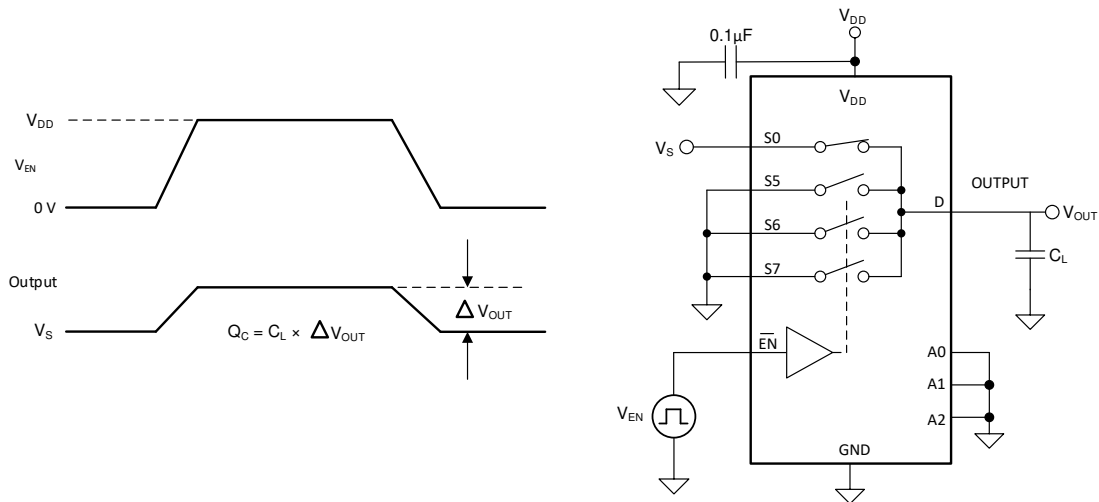

图 8-7. Charge-Injection Measurement Setup
The TMUX1308-Q1 and TMUX1309-Q1 device have a transmission-gate topology. Any mismatch in capacitance between the NMOS and PMOS transistors results in a charge injected into the drain or source during the falling or rising edge of the gate signal. The amount of charge injected into the source or drain of the device is known as charge injection, and is denoted by the symbol Q_C . 图 8-7 shows the setup used to measure charge injection from source (S_x) to drain (D).